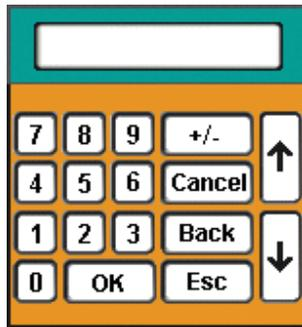

Figure 2-8 Keypad
- To change the address numbers, touch each individual numerical field. A pop-up keypad (Figure 2-8) appears every time a field is accessed.